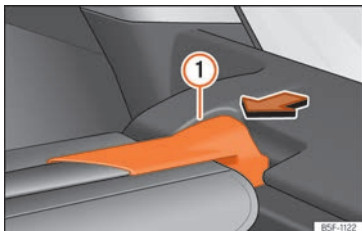

Fig. 140 In the luggage compartment: removing the shelf.
- Press the rear shelf support »» Fig. 140 ① in the direction of the arrow.
- Engage the support of the rear shelf »» Fig. 140 ① in the right housing.
- Check that the support »» Fig. 140 ① is properly engaged.